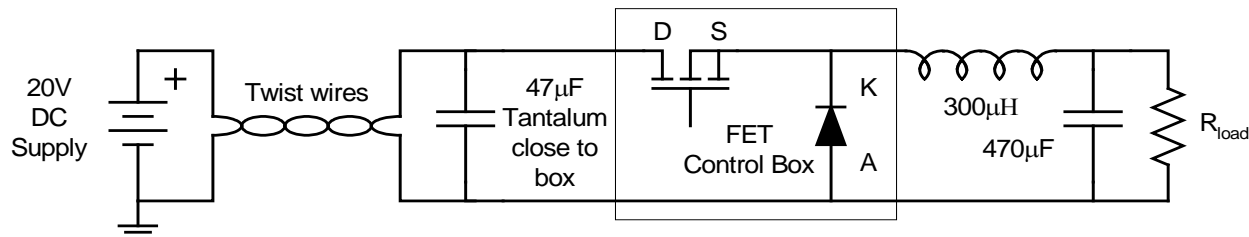

Figure 24: Buck converter test circuit
1. Connect a buck converter shown in Figure 24 to each FET.